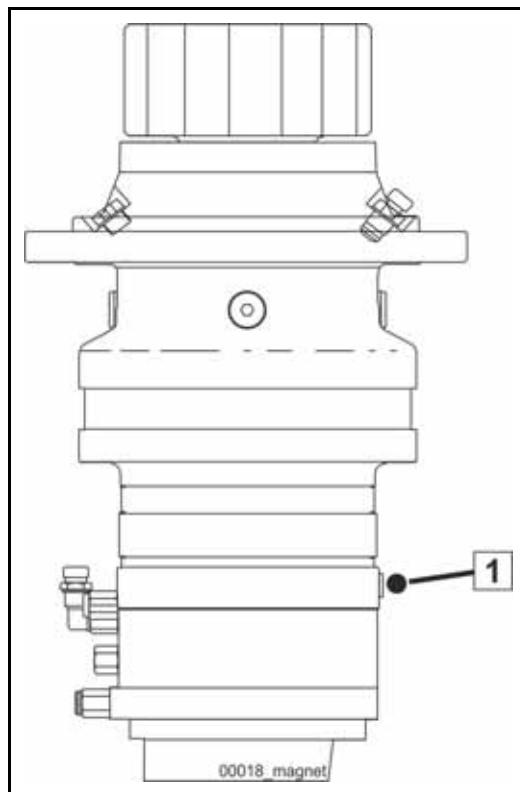

Fig. 324 Magnetic lock
- Check the magnetic locks on the gear for metal residue (1) (**Fig. 324**). In the event of large amounts of metal residue on the magnetic lock, contact Schwing's customer service